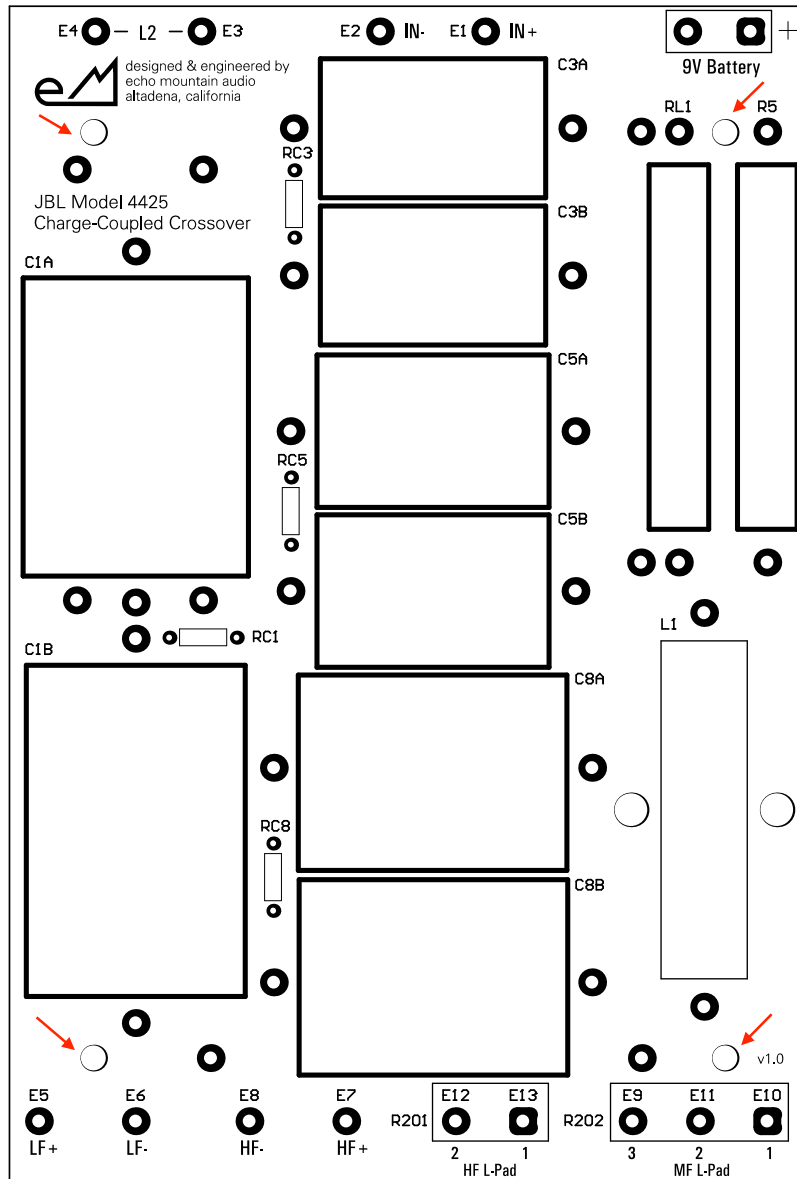
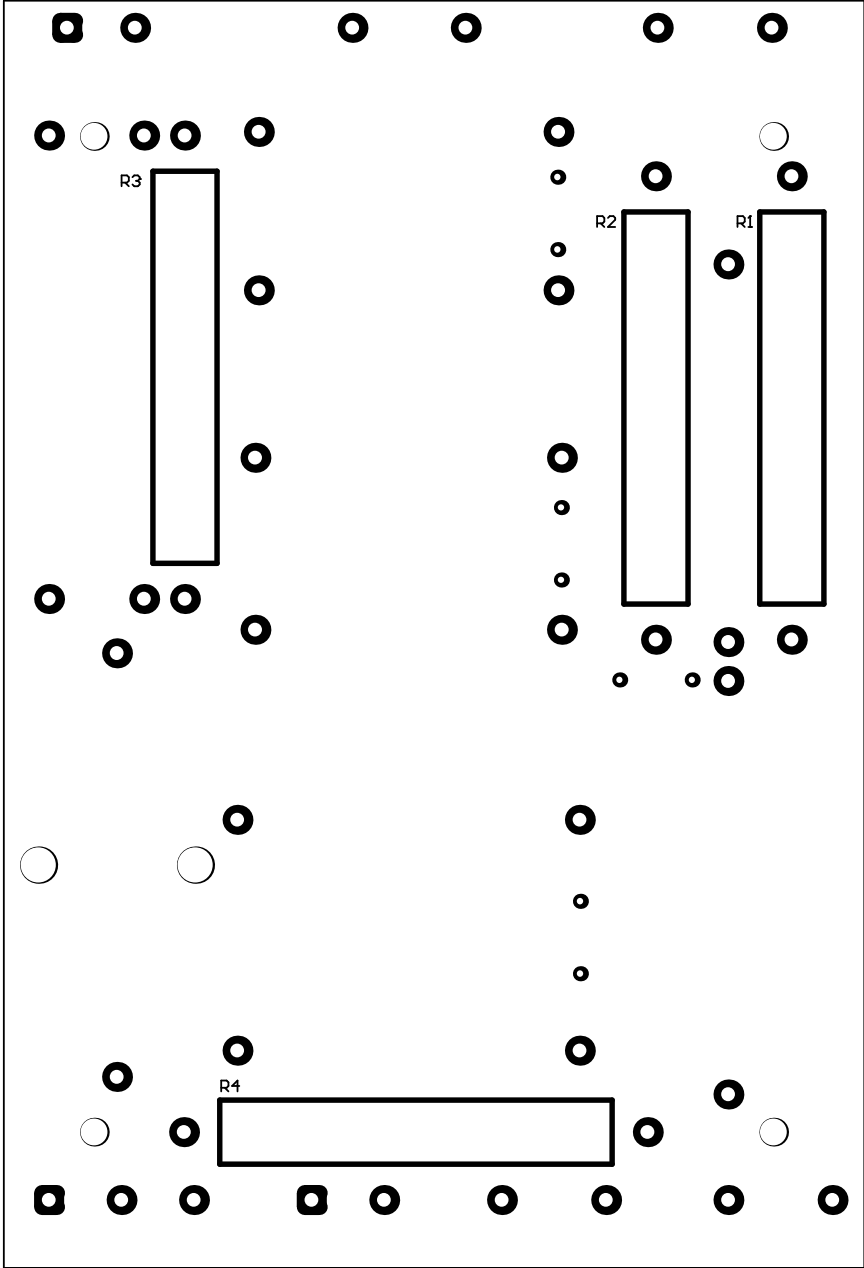
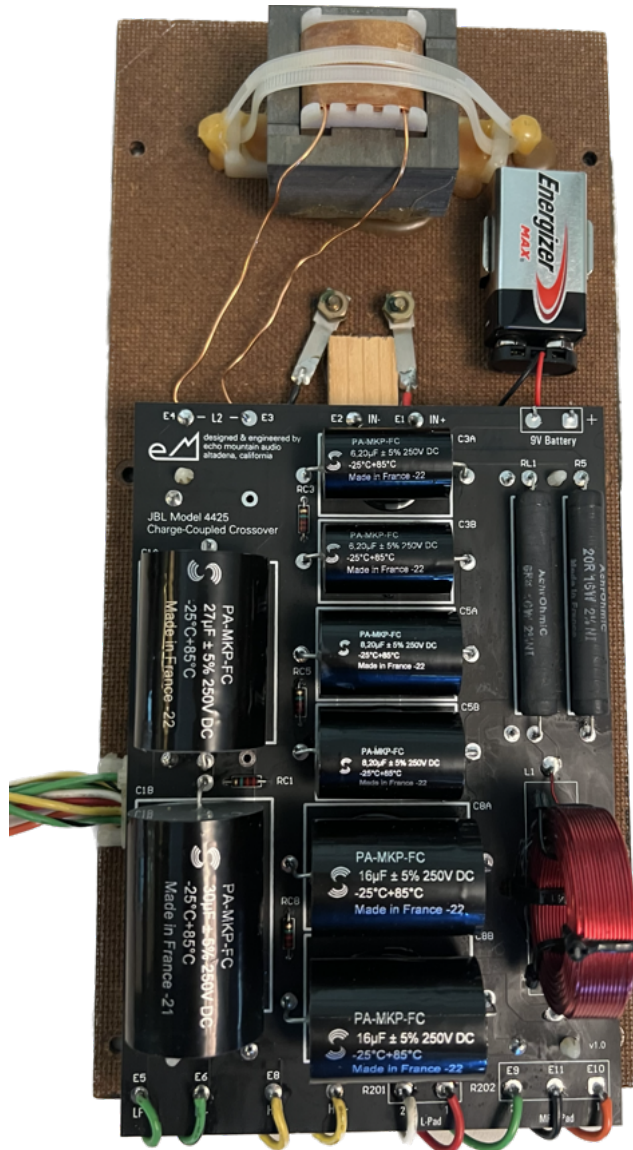

Figure 1: PCB top side view (mounting holes denoted with red arrows)
Figure 2: PCB bottom side view
Figure 3: Completed crossover unit with 9V battery installed
The JBL 4425 Charge-Coupled Crossover PCB is shown in Figure 1 (top side) and Figure 2 (bottom side). The board is designed to fit into the existing crossover housing, and the mounting holes, denoted with red arrows in Figure 1, are sized to make use of the existing snap-lock PCB clips. An example of a completed crossover, installed in the factory crossover housing, is shown in Figure 3. Note that the default configuration uses the factory inductor for the woofer low-pass filter. If you are building a custom crossover for the 4425, do not have access to a factory crossover unit, and/or want to use a different inductor, please see the Parts Information section.
2. Place a dab of adhesive in the center of the first PCB footprint (C3A). The general rule of thumb is that less is more; you want enough adhesive to cover the entire surface area where the capacitor touches the PCB, but be mindful that the adhesive will squeeze out from under the component once you press it into place (we want this for mechanical strength and vibration resistance), and you don't want it getting all over the board or squeezing into the adjacent footprints. See component C3A in the picture of the completed assembly in Figure 3 for a reference of how much squeeze-out you'll want.
2. Start by doing a fit check - arrange the leads to fit through the plated through holes, while positioning the inductor so that it sits flat on the board (see Figure 3 for reference). The leads will be much longer than required for the given footprint, so trim off the excess length, leaving enough to pass through the board and allow for a solder fillet on both sides.
1. Align the PCB mounting holes with the four snap-lock board mounts on the crossover board, and gently snap each corner into place, one at a time. The board orientation should match that shown in Figure 3.
6. Place a 9V battery in the clip, center it, and then remove the protective layer on the exposed side of double-sided tape. Place the battery and clip down on the right side of the crossover assembly mounting plate, choosing the location such that there is enough room to remove/install the battery, and enough room to attach the battery connector and wires. Use Figure 3 as a guide on placement. Remove the battery from the clip while holding the clip down to the surface (you don't want to lift the tape up inadvertently). Press down firmly on the bottom of the clip to increase the adhesion of the tape. If the tape accidentally lifts from the crossover, start over with a fresh piece of tape, as it will take small debris from the fiberboard with it, and won't adhere as well on the next attempt. This may sound complicated from the detailed description, but it's quite simple. Note that the battery can slide back and forth in the clip, so the exact placement of the clip is not critical.
2. Solder the wires inside the cabinet to their proper PCB pads according to the table below. The wire color codes shown in the table are consistent both with the 4425 speakers we've tested and the original 4425 technical manual from JBL. Route the wires along the bottom side of the board, bring them up and around the bottom edge of the PCB, and insert the wires into the PCB pads from the top side of the board – this will offer strain relief of these connections (again, use Figure 3 as an example of how it should look). Double check the wiring against the table below, and then solder the wires to the PCB.